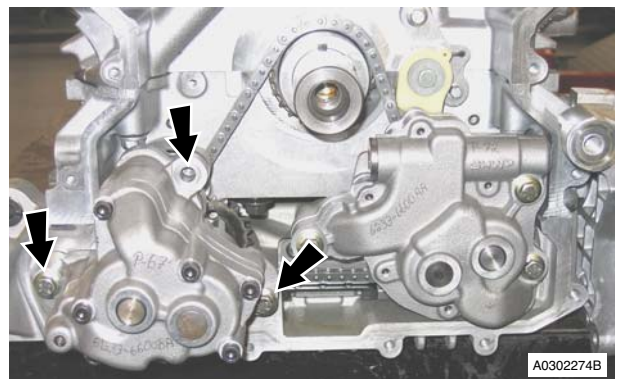

Figure 4
9. Remove bolts (x3) securing oil scavenge pump to sump (see Figure 4).